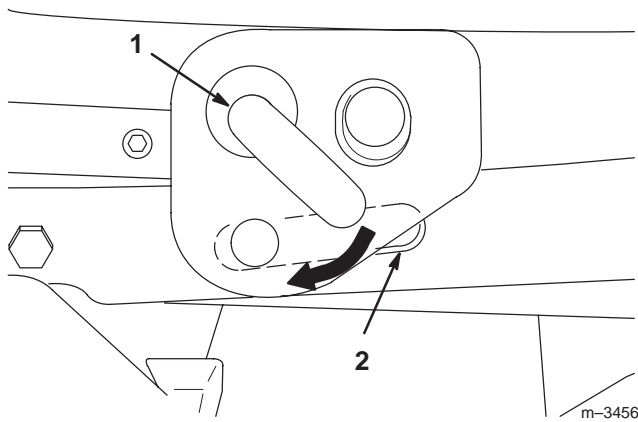

Figure 9
1. Slots in the side mounting brackets (2)
6. Lower the attachment lift arm fully and adjust the position of the mower until you can pull out on the J-pin of the lift arm and slide it into the slot in the mounting bracket of the mower (Fig. 9).